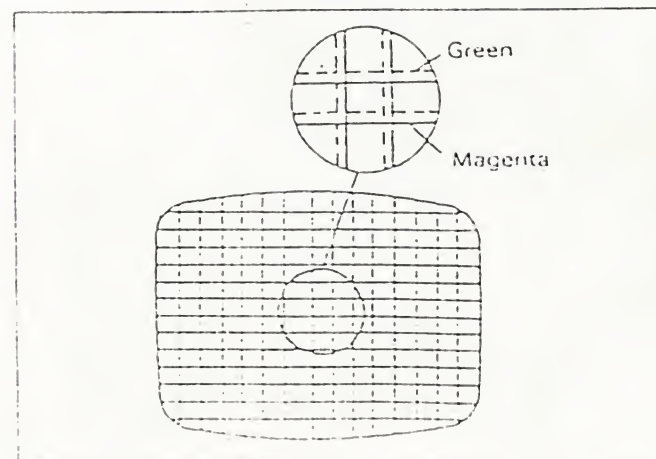

Fig. 2-4
4. Turn the two 4 pole convergence magnets and adjust so that red and blue become overlapped throughout the picture area to yield magenta. (Fig. 2-4)